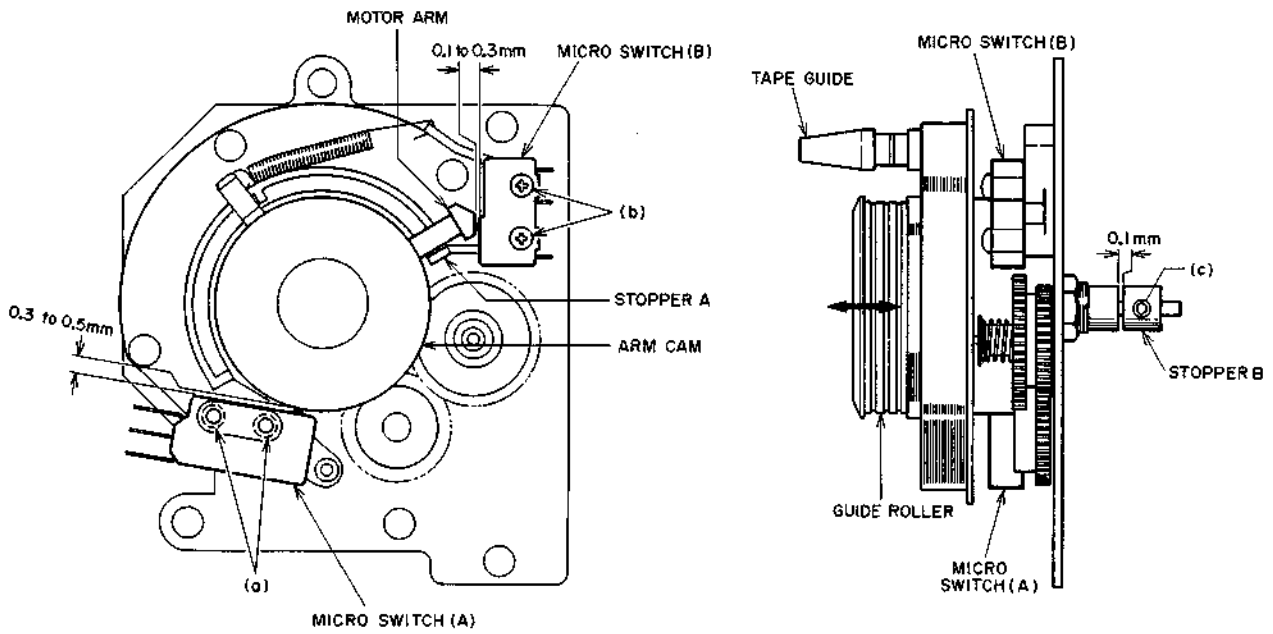

Fig. 33 Roller Block
1. GUIDE ROLLER LOOSE PLAY ADJUSTMENT (Refer to Fig. 33)
Adjust the stopper B (roller pulley on the right) screw (c) so that the loose play gap is approximately 0.1 mm when the guide roller is moved as indicated by arrow mark in Fig. 33.
2. MICRO SWITCH POSITION ADJUSTMENT (Refer to Fig. 33)